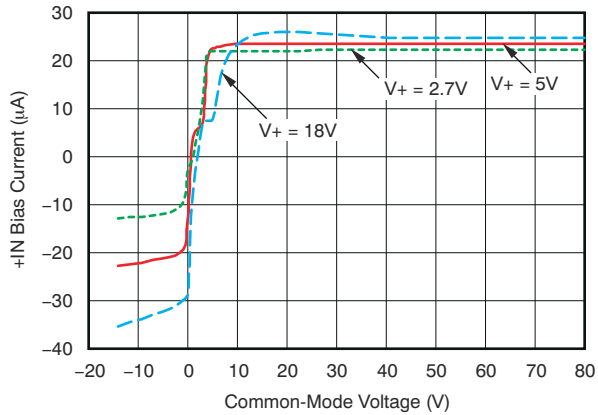

Figure 6-7. INA283-Q1 +IN BIAS Current vs Common-Mode Voltage
(1) RTI = referred-to-input.
(2) See typical characteristic graph Figure 6-7.
(3) The average of the voltage on pins REF1 and REF2 must be between V_{GND} and the lesser of $(V_{GND} + 9\text{ V})$ and V_+ .